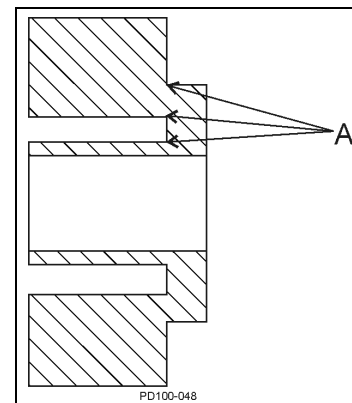

Figure 30 - Rotor Stress Points
- Thoroughly inspect rotors for worn keyways, and stress cracks (Figure 30, item A). Use dye check method to detect any fatigue-type cracks at rotor stress points.